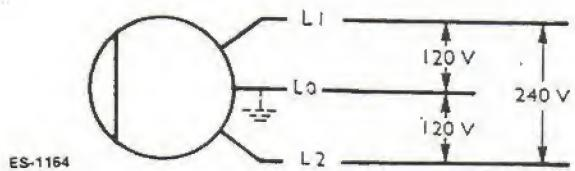

FIGURE 13. 120/240 V. 1-PHASE
**120/240 Volt, Single Phase, 12 Lead:** Terminal connection L0 can be grounded (neutral) as shown in Figure 13. For 120 volts, connect the hot load wires to either the L1 or L2 connection. Connect the neutral load wire to the grounded L0 connection. Two 120 volt circuits are thus available, with not more than 1/3 the rated capacity of the set available on either circuit. If using both circuits, be sure to balance the load between them.
Figure 13 shows load connections for 120/240 voltage, single phase. The double delta connections are shown in Figure 12.